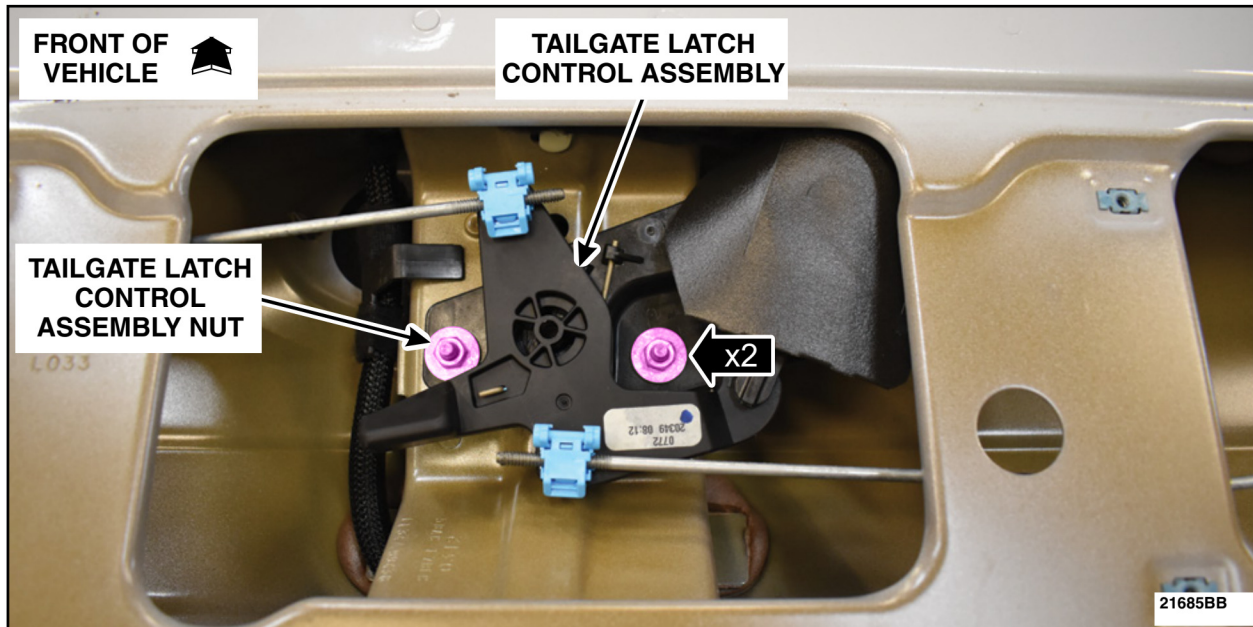

FIGURE 29
33. Position back the tailgate latch control assembly and install the nuts. See Figure 29.